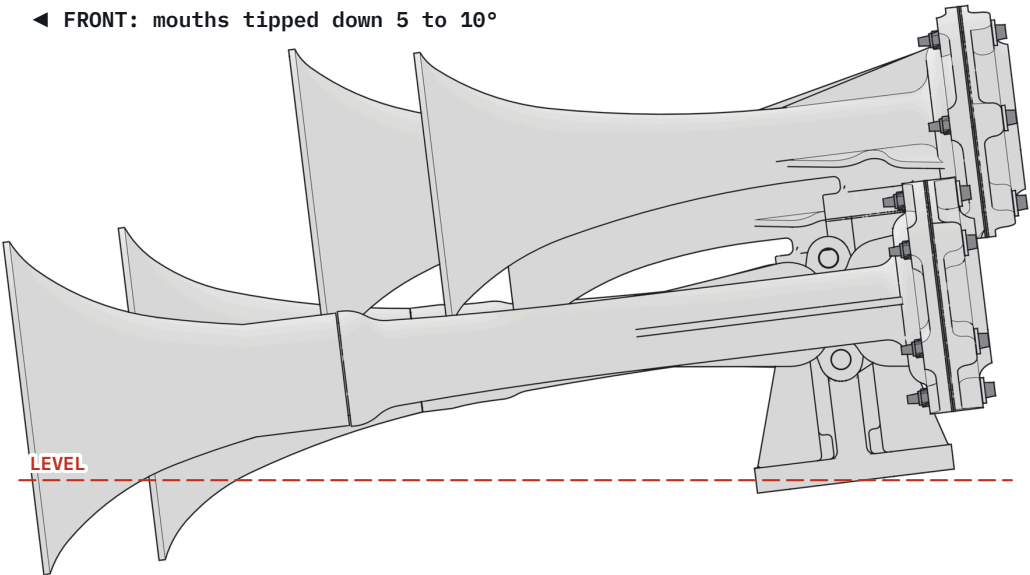

Fig. 8 Low mount from the side, tipped forward so water drains out of the bells.
- Tip the bells down 5 to 10° so rain and condensation drain out (Fig. 8).